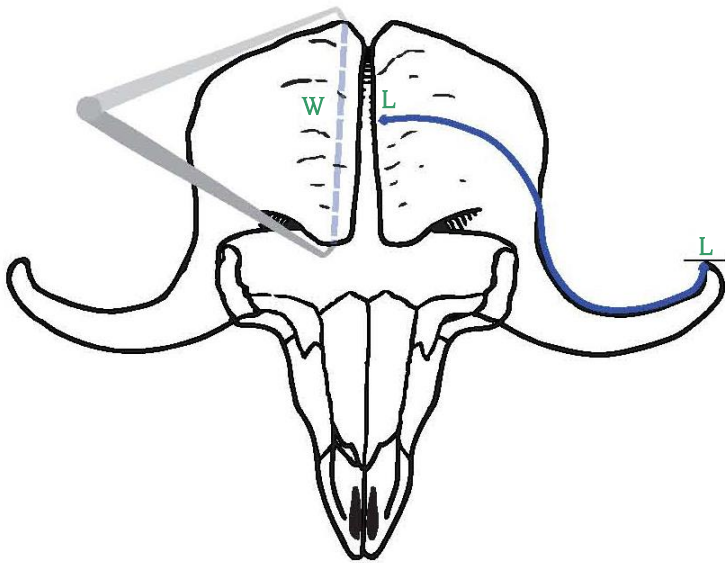

Figure 1
1. Length. Measure the length of each horn from the center of the boss to the tip, following along the center of the horn surface (L). (Figures 1 and 2) Start on the boss side in the narrow valley between the two bosses use a hooked $\frac{1}{4}$ -inch wide steel tape. Hook the steel tape around the edge of the horn and then the tape will then go almost straight up and make a turn to arrive at the top of the boss. From there, measure toward the tip while keeping the tape in the center. Marking the center of the horns with a pencil or paper masking tape first is a good way to keep right in the center. As the tape advances toward the point, it may, in fact, start back toward the boss as the horn hooks up and inward. Stay on the center of the horn. If the horn tip is broken or worn, card off. (See General instructions.)
2. Width of Boss. Using a caliper, measure each boss at its greatest width. Make sure your measurement is parallel to the center of the skull. (Figure 1) Do not measure “green” or “soft” boss material. Make sure the caliper is tight along the horn but not so tight that that it snaps inward once it is removed from the horn but not too loose around the horn either. It must touch horn when being removed from the skull so that the space can be measured with an inch tape.